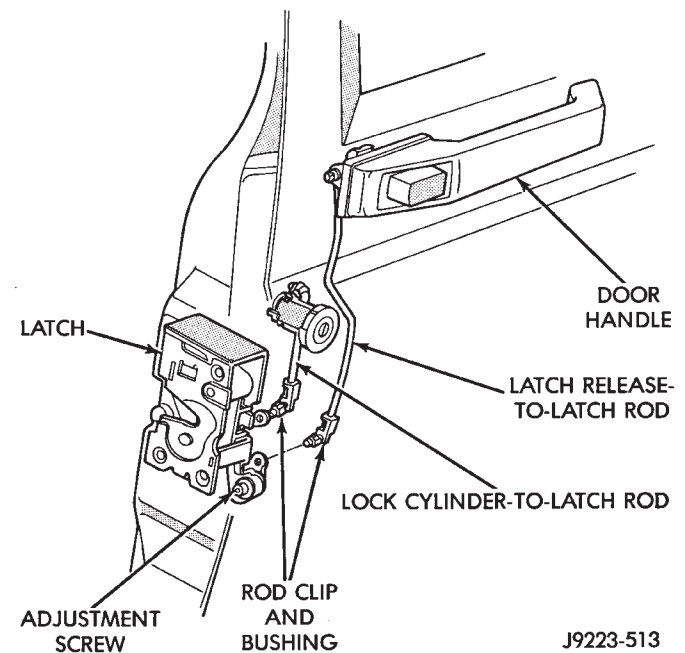

Fig. 68 Key Lock Cylinder and Door Latch
- (1) Remove the door trim panel and waterdam.
- (2) Disconnect the door latch-to-lock cylinder rod at the door latch (Fig. 68).